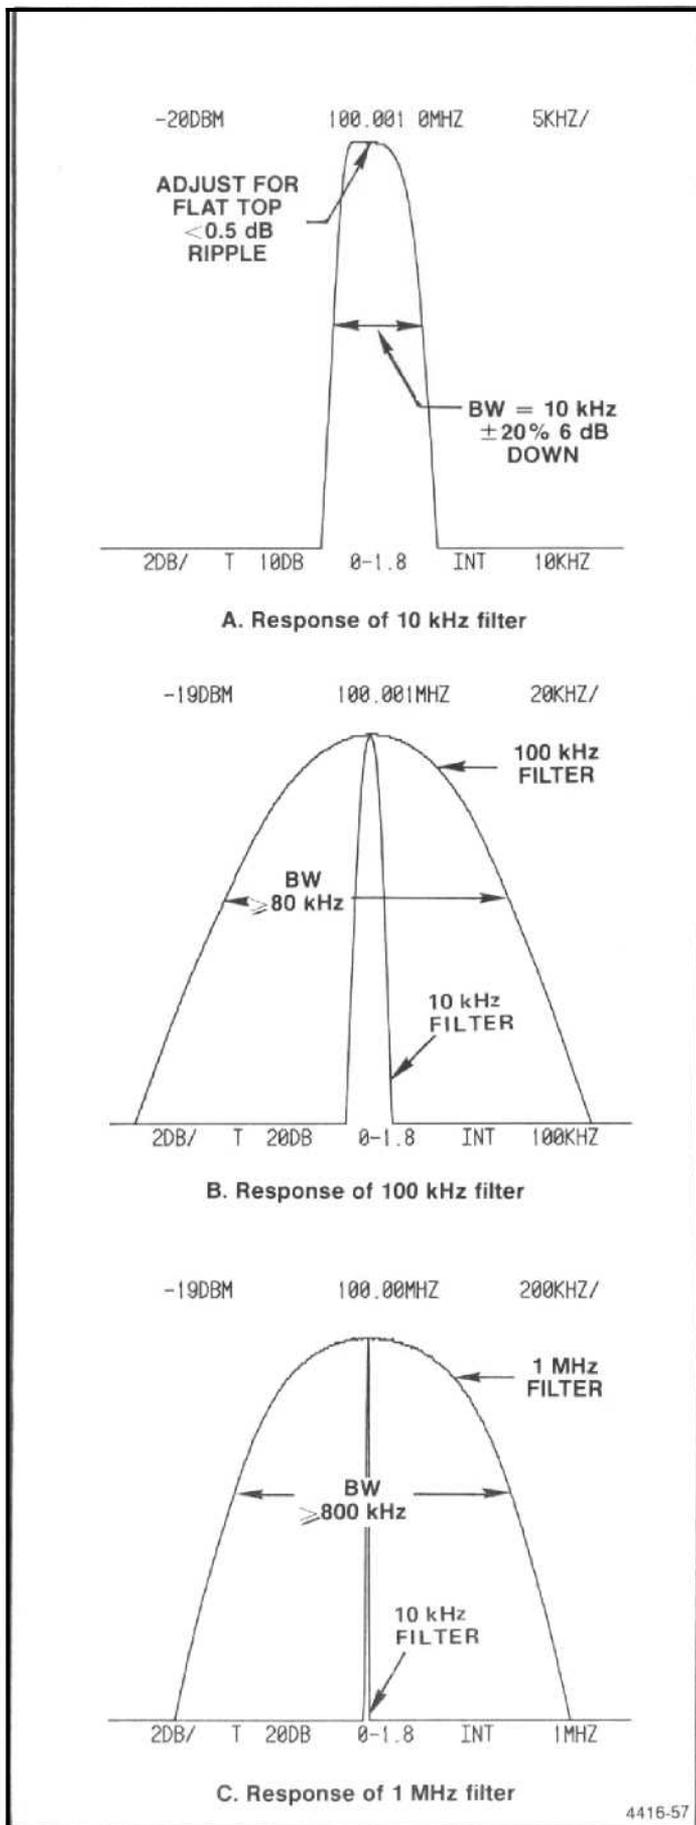

Figure 5-22. Typical response of the 10 kHz, 100 kHz, and 1 MHz bandwidth filters.
r. Check the waveshape, bandwidth, and centering of all filters. If necessary, make only fine or minor adjustments. Figure 5-22 shows typical response shapes.